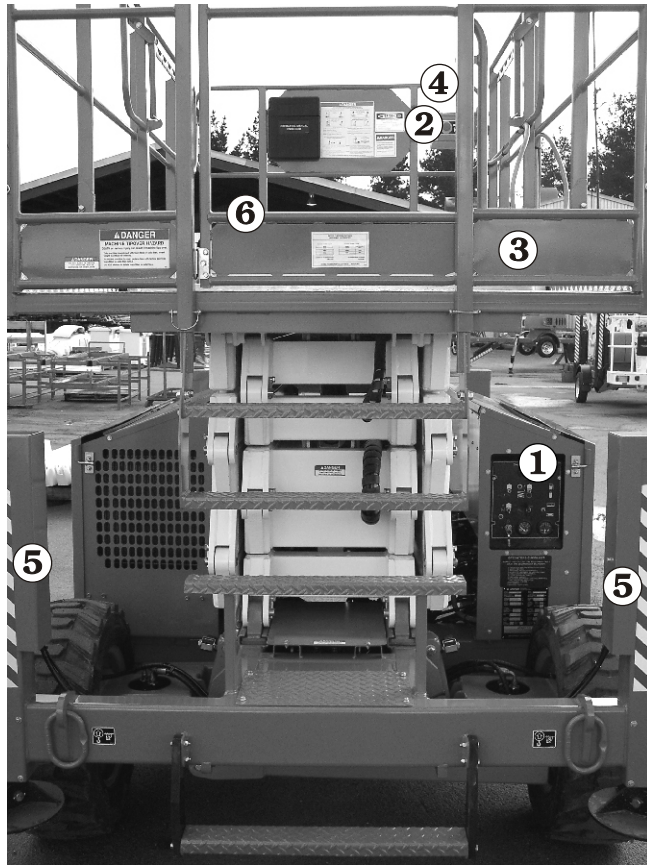

Figure 10.1 - Correct Stowed Position
1. Fully lower the platform **3** (see Figure 10.1).
2. Use the stabiliser controls **4** to completely raise all four of the stabilisers **5** (see Figure 10.1).
3. Close the platform entry gate **6** (see Figure 10.1) and close all the doors on the machine.